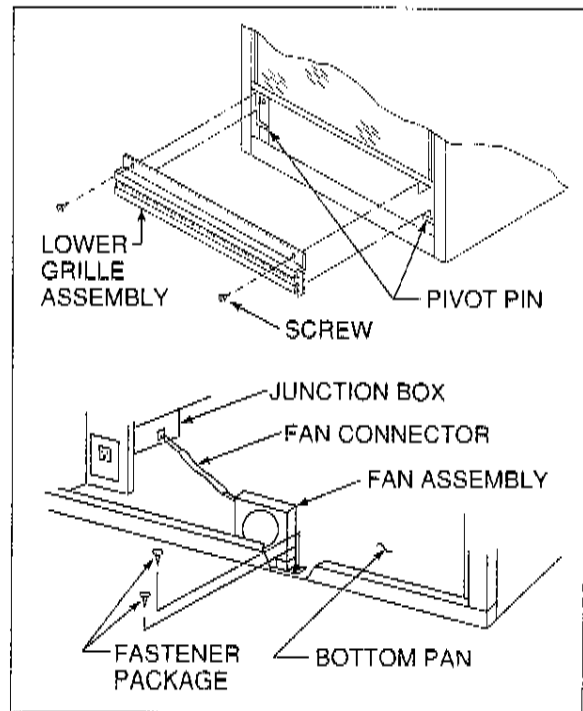

Figure 8
To install the optional FK10 Fan Kit in a circulating gas appliance (GC340, GC340L, GC340E or GC340LE) first remove the front access panel as shown in Section V, Figure 8, of these instructions. Plug the fan connector into the junction box and secure the fan assembly to the bottom pan using two screws as shown in Figure 8.
A. REMOVAL OF FRONT ACCESS (See Figure 8)
A. REMOVAL OF FRONT ACCESS (See Figure 8, page 6)